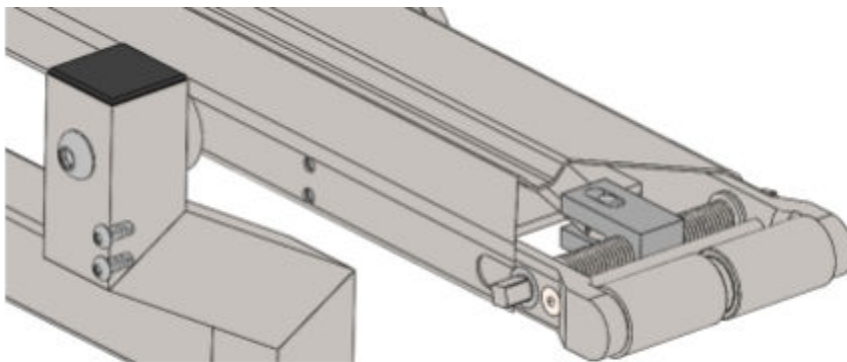

Figure 2
3. Using a 5/32 hex key, undo the two screws that secure the tensioning assembly to the body of the conveyor. (See Figure 2)